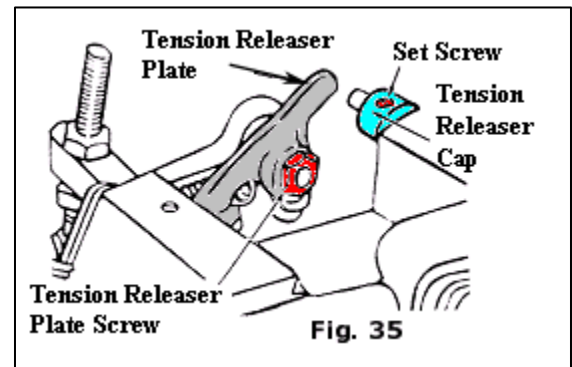

Fig. 35
**Adjustment:** To adjust, loosen the set screw, Fig. 35, and move tension releaser cap out for earlier release of tension or in for later release. Hold in position and tighten the set screw. Should the tension releaser not release tension at the correct time after making the above adjustments, loosen the tension sidewise to correct position. Then tighten the screw releaser plate screw and move plate